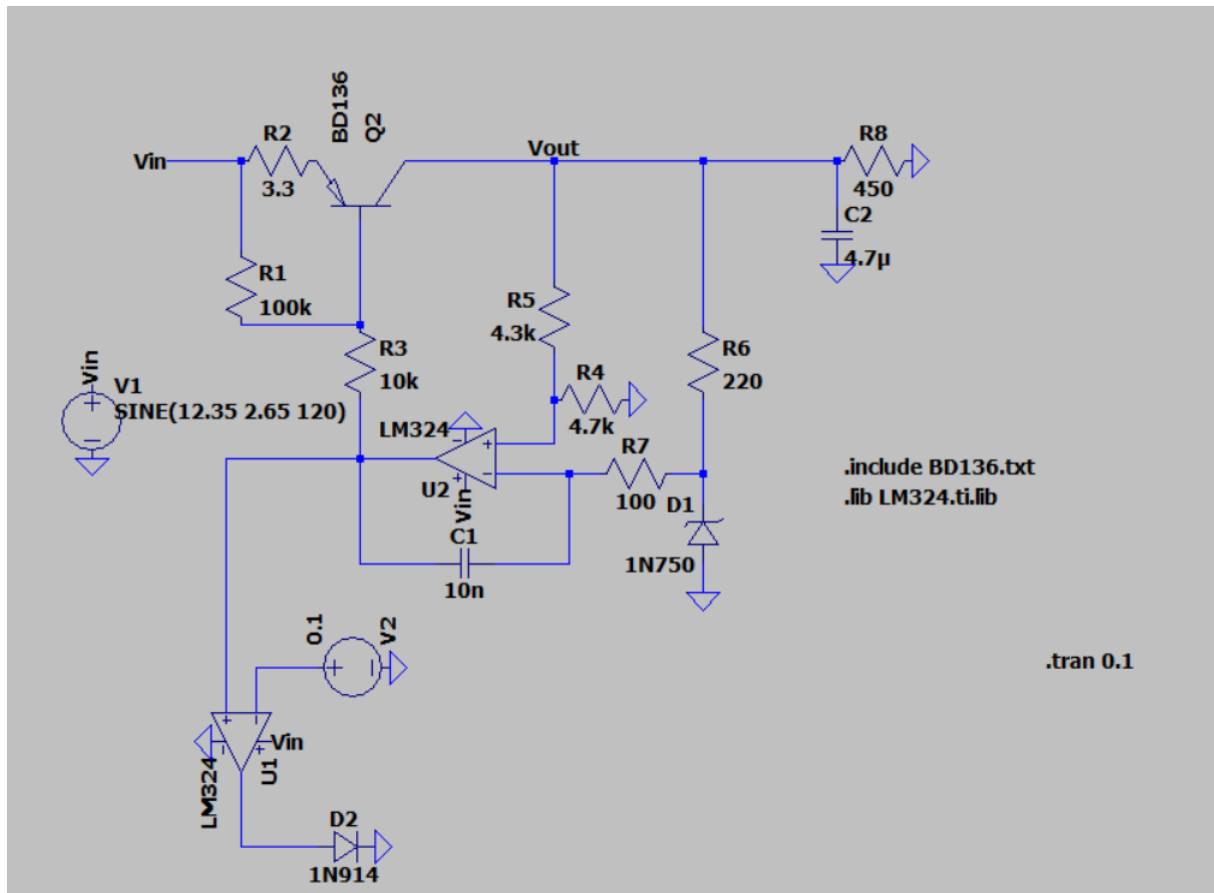
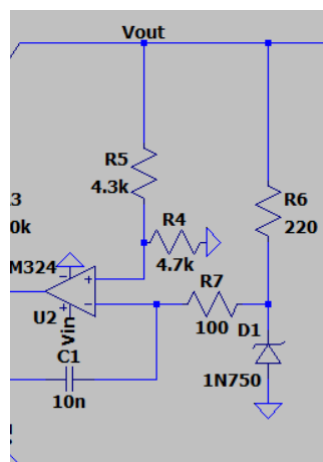

Fig. 3: Whole circuit design
Fig. 4: Feedback circuit
I designed a circuit that regulates the given input voltage and do not gives output voltage more than 9V given in Fig. 3. I used pnp-type BJT transistor to regulate the voltage. Voltage drops out around 0.3V since V_{sat} , as seen in formula (1). I connected BJT's base terminal to a feedback OPAMP circuit. That sub circuit can be observed in Fig. 4.